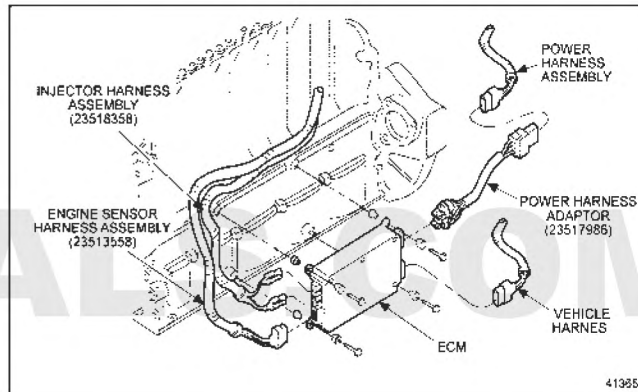

Figure 1 DDEC IV ECM and Wiring Harness Locations
1. Install the Engine Sensor Harness (P/N: 23513558), included in the kit. See Figure 1. Refer to Section 8.6 of Service Manual.